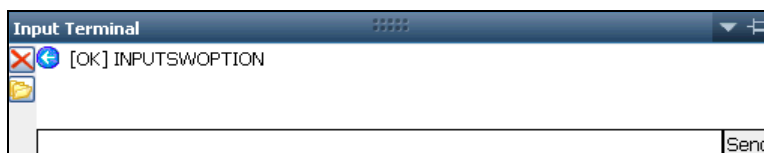

Figure 86: *Input Terminal* – Successful Software Upload
The *Input Terminal* window also displays the outcome of the upload. Figure 86 shows a successful upload:
5. Click *Send* on the *Input Terminal* window. If the software options loaded successfully, the Input Terminal window displays a confirmation message (see Figure 86).